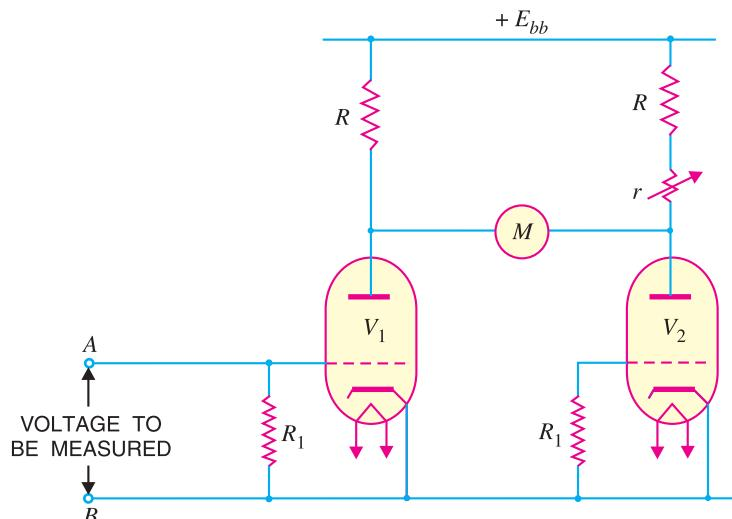

Fig. 22.12
**(ii) Balanced bridge Type VTVM.** The disadvantage of above circuit is overcome in the balanced bridge type VTVM shown in Fig. 22.12. Here, two similar triodes  $V_1$  and  $V_2$  are used. The meter  $M$  is connected between the plates of triodes and indicates the voltage to be measured. The variable resistance  $r$  in the plate circuit of  $V_2$  is for zero adjustment of the meter. The voltage to be measured is applied at the grid of triode  $V_1$  in such a way that grid is always negative with respect to cathode.